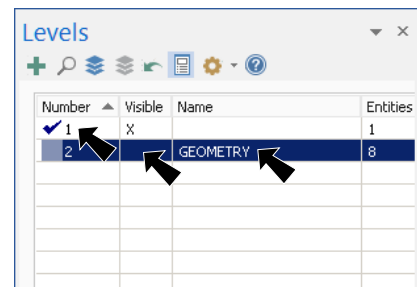

Fig. 27
Step 6. In the Levels Manager (Alt-Z), Fig. 27